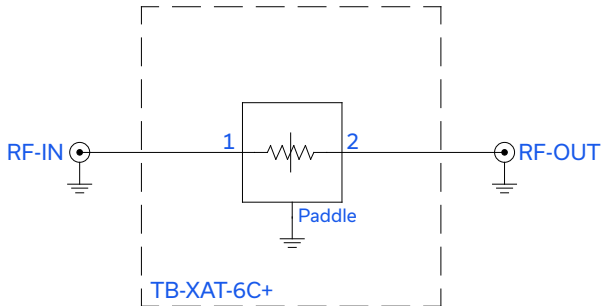

Figure 2. XAT-6+ Characterization and Application Circuit.
1. Tested on Mini-Circuits Characterization Test/Evaluation Board TB-XAT-6C+. See Figure 2. Board loss de-embedded to the device.